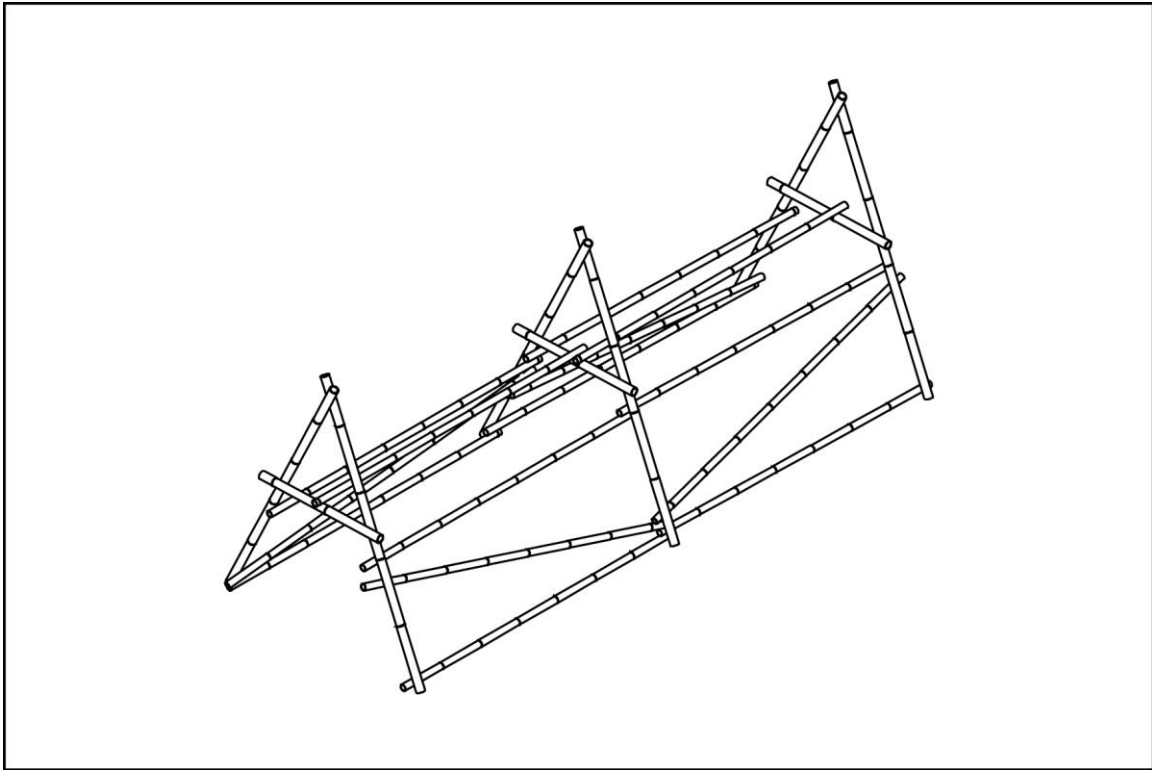

Figure 14: Diagonal bar side B
- ◆ On the other side, one end of both diagonal bars meet at the base of middle vertical post, like a "V" (Figure 14).